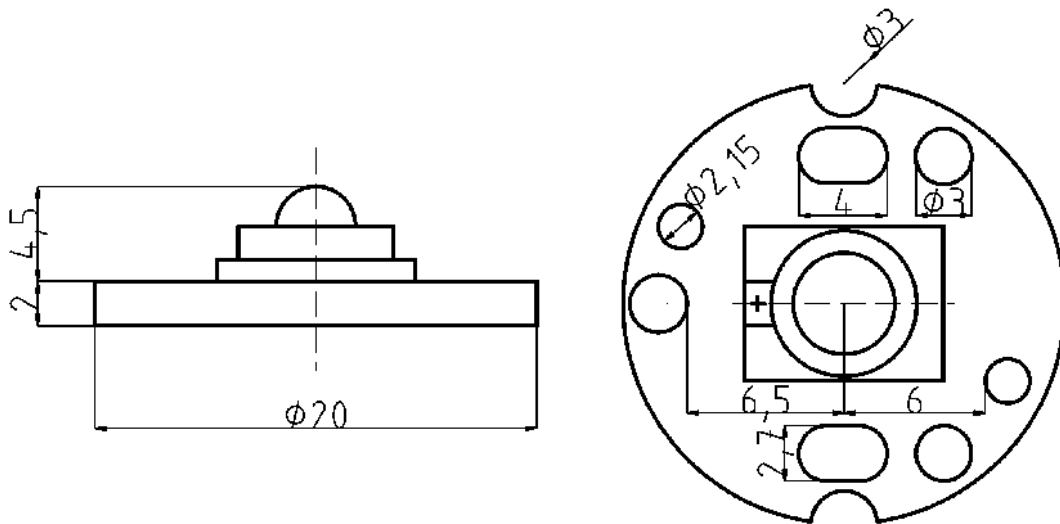
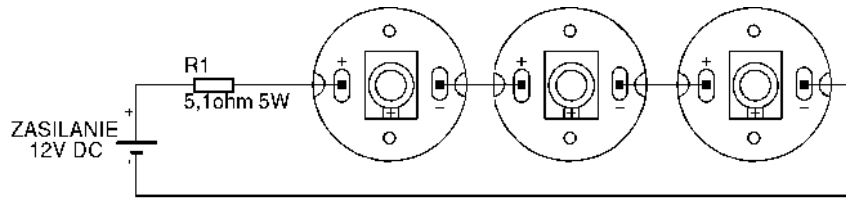
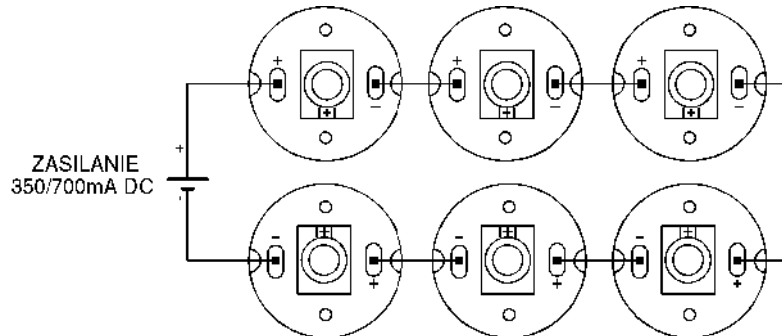
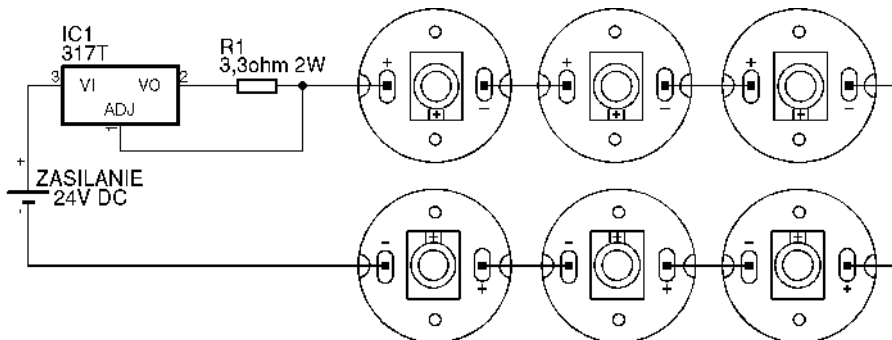

Fig.1. Mechanical dimensions of ROUND XR module.
Fig.2. Three serial connected ROUND-XR modules, drive voltage 12 V DC.
Fig.3. Six ROUND-XR modules, drive current 350/700 mA.
Fig.4. Six ROUND-XR modules, drive voltage 24 V with LM317T stabilizer.
5. There are examples of ROUND-XR connections on the following page. It is recommended to drive modules by current, using special current power supplies (Fig.2). It is possible to drive modules by voltage using stabilized voltage power supplies with serial resistor (Fig.1) or LM317 circuit in current stabilization mode (Fig.3). ROUND-XR modules are adjustable to connecting them parallel (Fig.4).